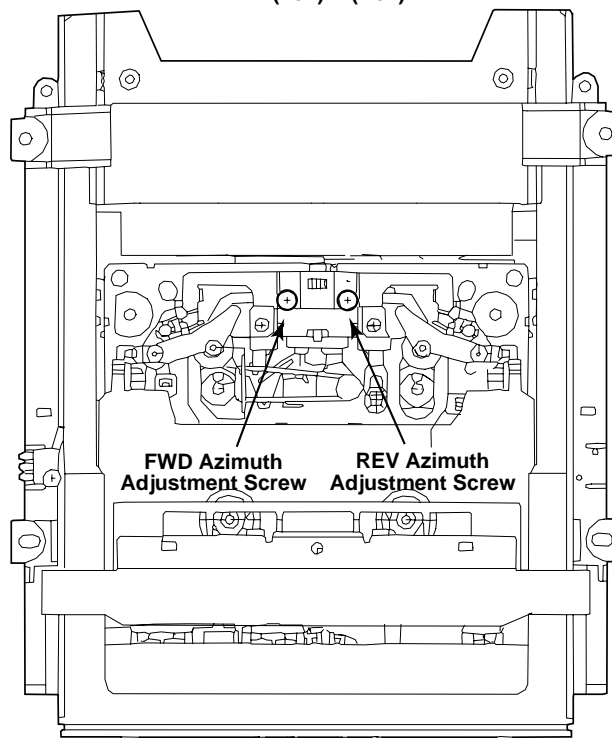

Fig. 6-3 Adjustment and Measurement Points
- (1) The ground at the time of adjustment shall be W166. (Refer to Fig. 6-3).
- (2) Clean the heads and demagnetize them using a head eraser.
- (3) Set the measurement level to 0 dBV = 1 Vrms.
- (4) Use the specified tape for adjustment. Use the labeled (A) side of the test tape.